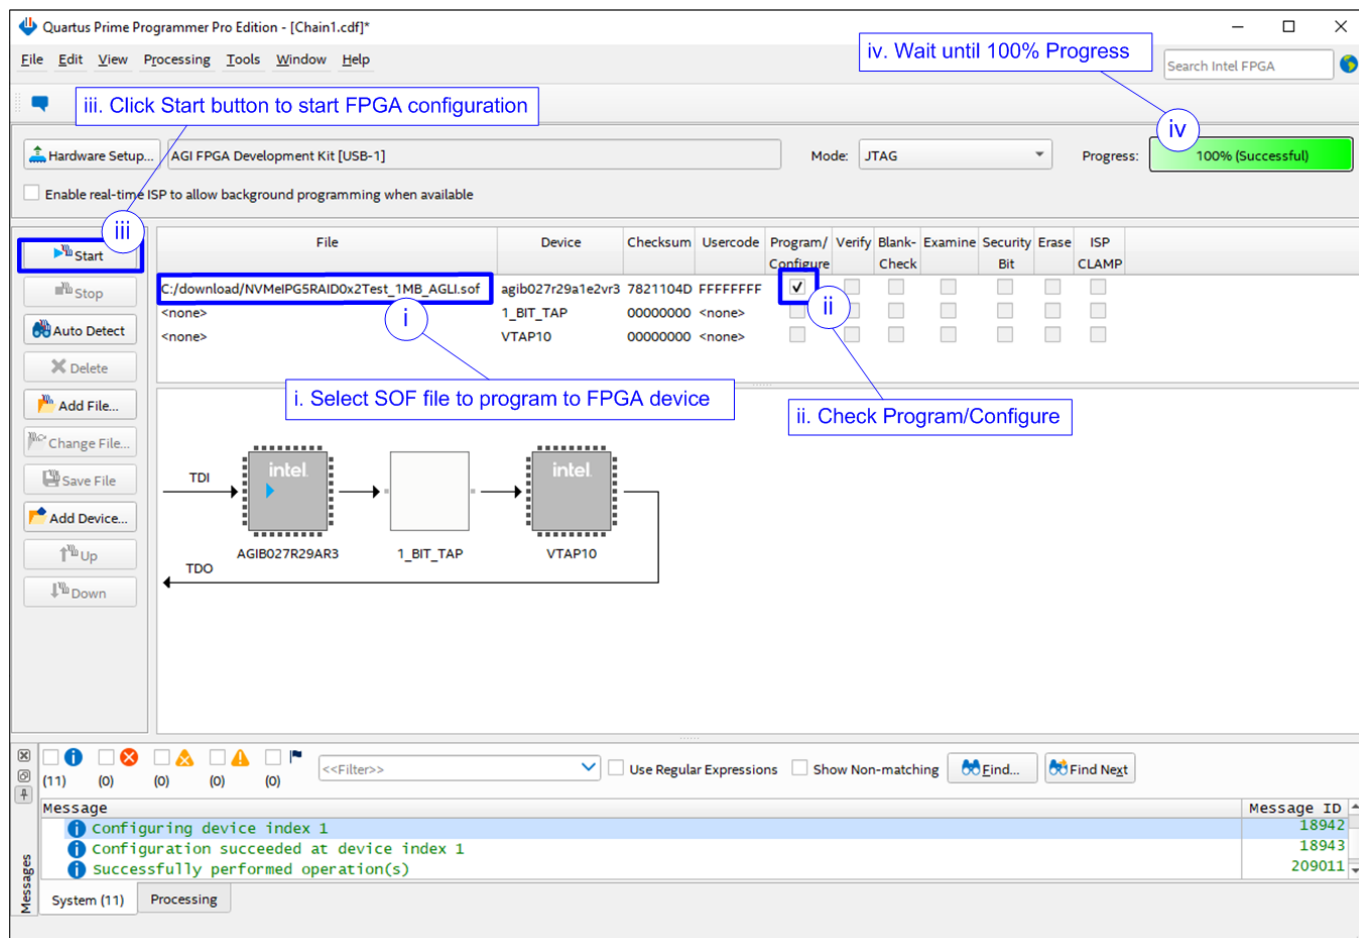

Figure 2-10 Programmed by Quartus Prime Programmer
- 1) Use Quartus Programmer to download the SOF file, as shown in Figure 2-10.